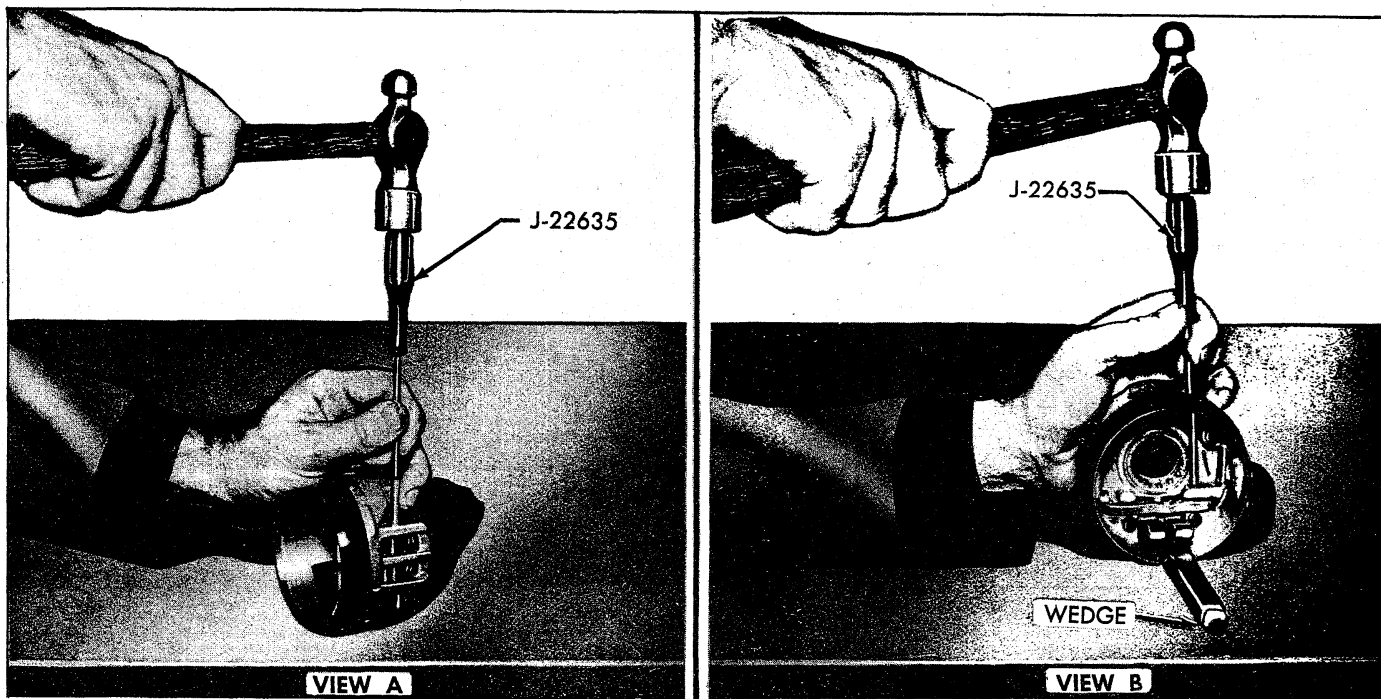

Fig. 45—Removing Lock Shoe Retaining Pin Using Tool J-22635
- a. Drive the lock shoe retaining pin out of the housing using release lever pivot remover Tool J-22635 (fig. 45, View A).
- b. Hold the shoe springs in compression by rocking lock shoes in with a wedge to relieve the load on the shoe release lever; drive out shoe release lever pin using Tool J-22635 (fig. 45, View B). Remove shoe release lever and release lever spring.
- a. Place lock shoe springs and lock shoes in position in bearing housing. Line up shoes for pin installation using Tool J-22635 (fig. 45). Install shoe pin flush with housing face on shoe release lever pin side.